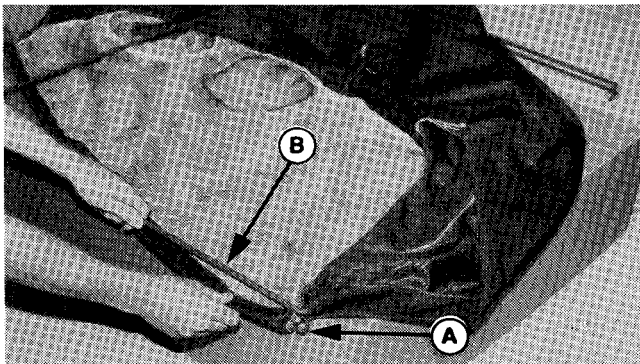

Figure 7.
6. **INSTALL THE COVER ASSEMBLY (figure 7).** Unfold the cover and spread it out on a flat, clean surface with the white dust shield side up. The two 3/8 inch rods are threaded through two sleeves inside the cover. The rod with the two bent ends is called the frame rod (B), since it lays on top of the box's frame. The rod with the two eyebolt ends is called the support rod, since it supports the top, rear side of the cover. Install as follows:
- a. Thread the frame rod through the bottom sleeve of the cover so that the two bent ends protrude through the openings on each side. The openings (A) of the sleeve are found next to the black cord loops.